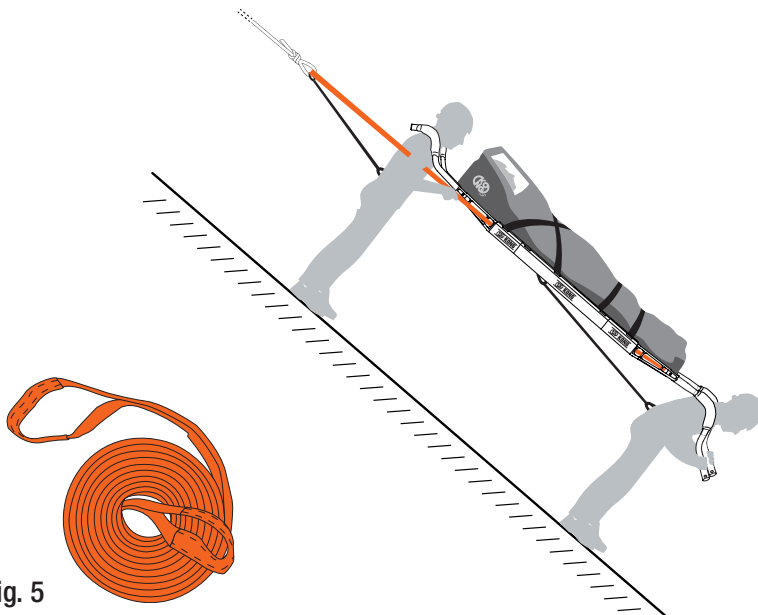

Fig. 5
Lowering and rescue on areas with steep inclinations (fig. 5) with the 871.20 VIRGO belt (optional component)
- c) 871.02 VIRGO belt (figure 5),